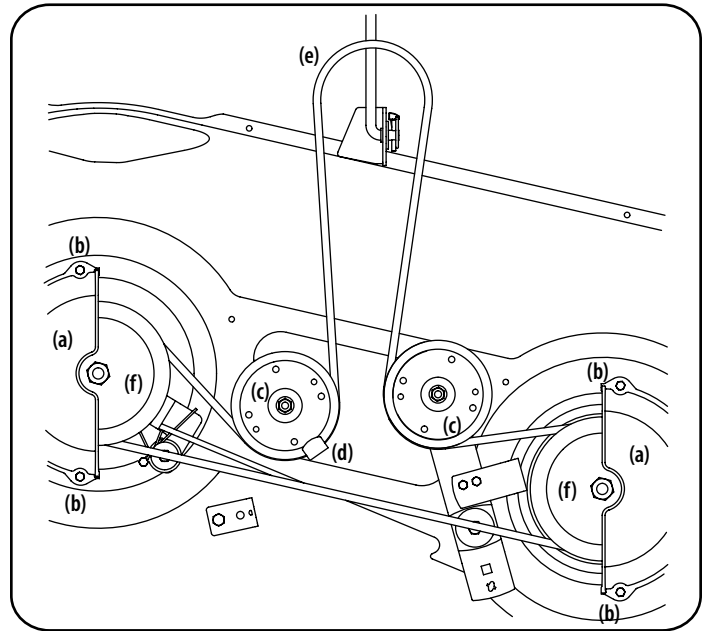

Figure 29
- Remove the belt covers (a) by removing the hex washer screws (b) that fasten them to the deck. See Figure 29.
- Carefully remove the deck belt (e) from around the two spindle pulleys (f) and the two deck idler pulleys (c). See Figure 29.
- To place the new belt, begin by routing the belt around the two spindle pulleys (f). Route the belt around the two deck idler pulleys (c). Retighten the left idler pulley hex nut loosened in step 3. Remount the belt covers removed (a) in Step 2. See Figure 29.
- Re-install the deck, making sure the belt remains routed around the pulleys as instructed. See Figure 29.